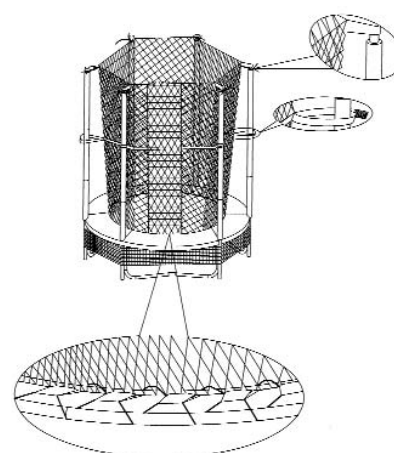

fig. 9
Assemble the centre (3) and upper pipe (4) of the safety net to the lower pipe (2) (fig.8). Make sure that all of the fasteners snap together. Then attach the safety net to the pipes. Firstly tie the net to the upper pipe ends with the closed elastic loops; also secure the net by tying the bands on the upper edge of the safety net to the pipes. Then fasten the velcro loops in the centre of the pipes (fig.9).